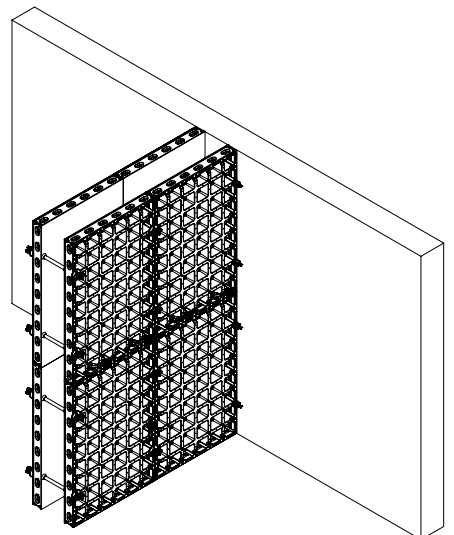

Fig. B6.05a
Use the cam nut (53) in order to avoid overlapping between the nut and the wall. (Fig. B6.05a)